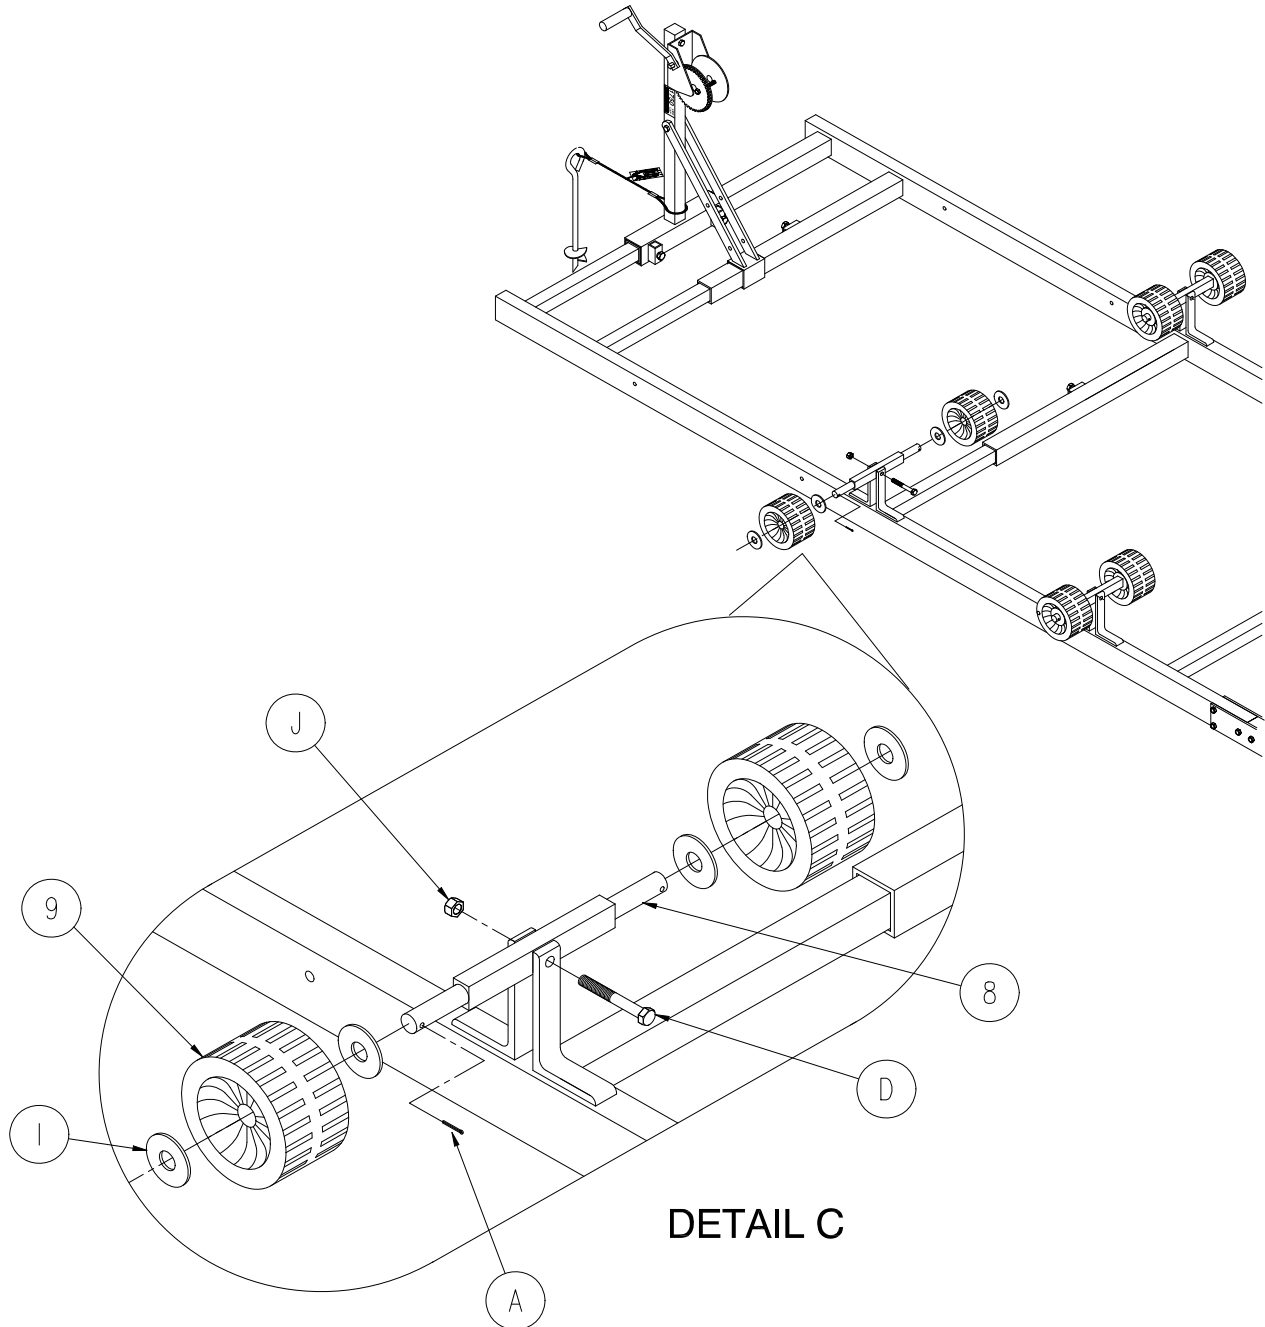

Figure 3-3.
1. Refer to **Figure 3-3**. Install wobble roller axle (8) to track using hex head cap screw (D) and nut (J) as shown in **Detail C**. Insure that you do not over tighten the wheel pivot bolt.
2. Install two washers (I) and 5" guide-on roller (9) onto each side of axle. Use cotter pin (A) to secure both sides as shown in **Detail C**.